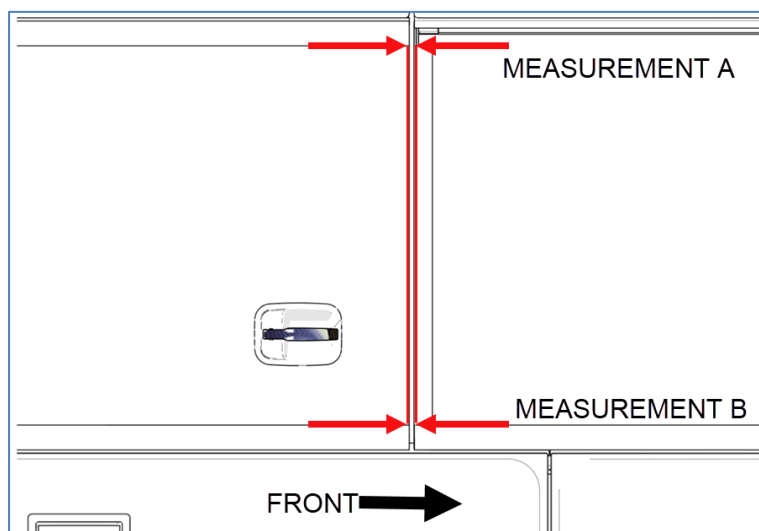

Figure 33
6. By visual inspection, check proper parallelism of the sliding door vertical edge in comparison to the nearby body panel edge (Figure 33).